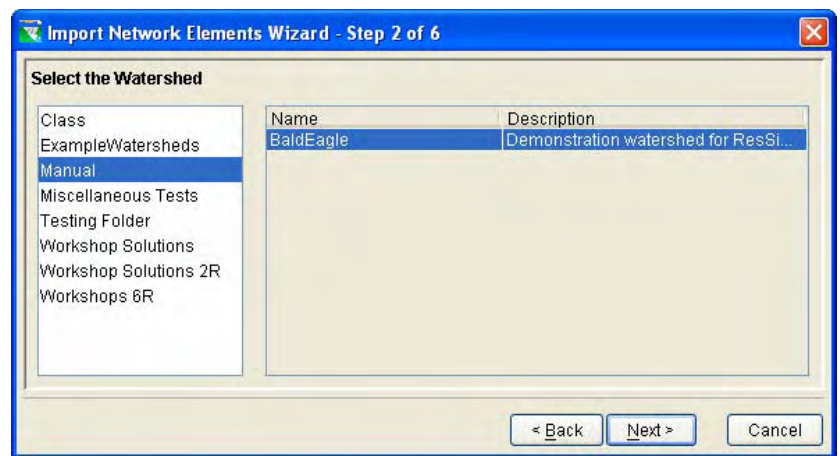

Figure 11.128 Import Network Elements Wizard – Step 2 of 6 (Select Watershed to Import Data From)
3. Select **Next** to continue and the **Import Network Elements Wizard – Step 2 of 6** will appear (Figure 11.128). Select the watershed that contains the network from which you would like to import physical and operational data. The box on the left side of the dialog contains names of Watershed Locations that have been specified as Model Directories. The box on the right side of the dialog contains all the watersheds that can be found in each Watershed Location.